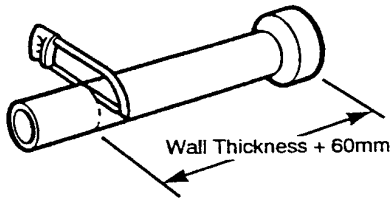

Fig. 23
2. Take the flue duct and mark off wall thickness + 60mm ($2\frac{3}{8}$ in) from the swaged end of the duct and cut to size (Fig. 23). (Use the tape provided to give an accurate cutting guide by wrapping it around the flue duct with the edge marking the cutting line).